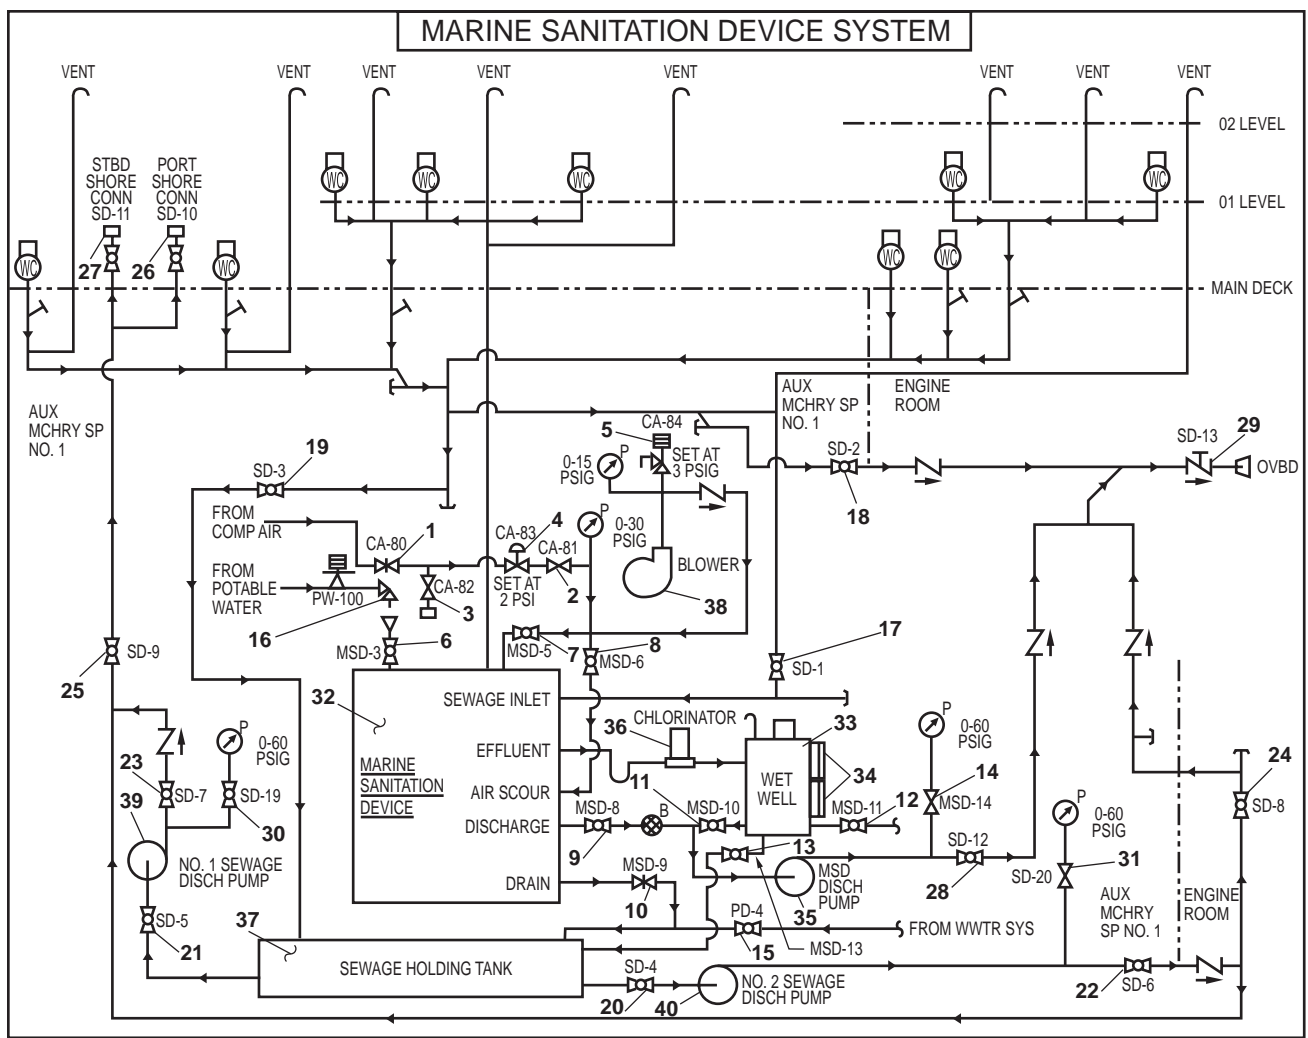

Figure 3. MSD System Schematic
3. Align the valves for the MSD to operate under usual conditions as specified in figure 3 and table 1.